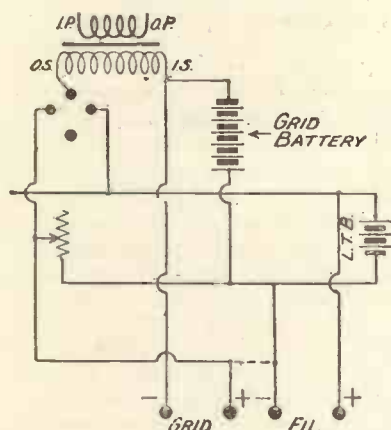

Fig. 1.—The internal wiring necessary when a voltmeter is used outside the set.
**M**OST of us use a voltmeter either for testing the condition of the filament battery or for discovering the E.M.F. most suitable for the filaments of various types of valves; but comparatively few people ever bother to measure the amount of grid-biasing voltage applied to their low-frequency valves, being content to use flashlamp batteries for the purpose and to reckon them always at 1.5 volts per cell. This is unsatisfactory, for two reasons: in the first place, voltage falls off when the battery has been in use for some time, even though the current drawn from it is of tiny proportions, and secondly, no account is taken of the voltage drop through the filament rheostat. A simple method of using a voltmeter which is not mounted on the set for measuring both grid and filament potentials is shown in Fig. 1. Leads from the filament busbars are brought to one pair of terminals, whilst to another pair are taken leads running from the negative leg of the filament and from the I.S. of the transformer secondary. With some voltmeters it does not